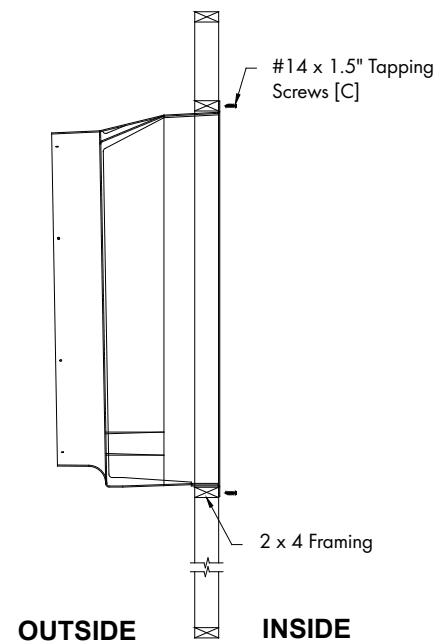

Figure 2
Insert fan into the framed opening from the inside. While lifting fan up tight to framing, fasten top of fan with the (3) Fasteners [C] (provided). See Figure 2. Next, fasten bottom of fan, then both sides with remaining (9) Fasteners [C] screws (provided). Install flashing around opening tight to fan and caulk around fan to seal.